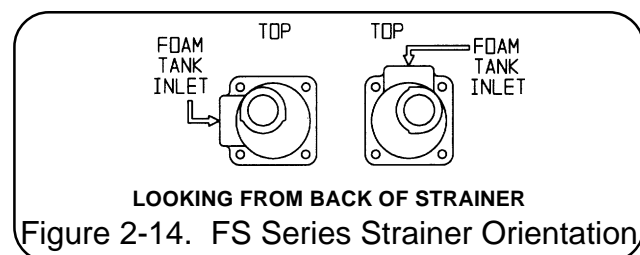

Figure 2-14. FS Series Strainer Orientation
the inlet connection port is oriented as shown in figure 2-14 when installing the FS series strainer.
5. Make sure the strainer is oriented as shown in figure 2-14 and secure the strainer body and nameplate to the apparatus with the screws provided. Install the cap on the strainer.
6. Install the hose from the foam tank outlet to the inlet of the strainer. The inlet of the strainer is closer to the operator panel and is oriented as shown in figure 2-14. Wetting the ends of the hose and fittings will help ease installation on the hose fittings.